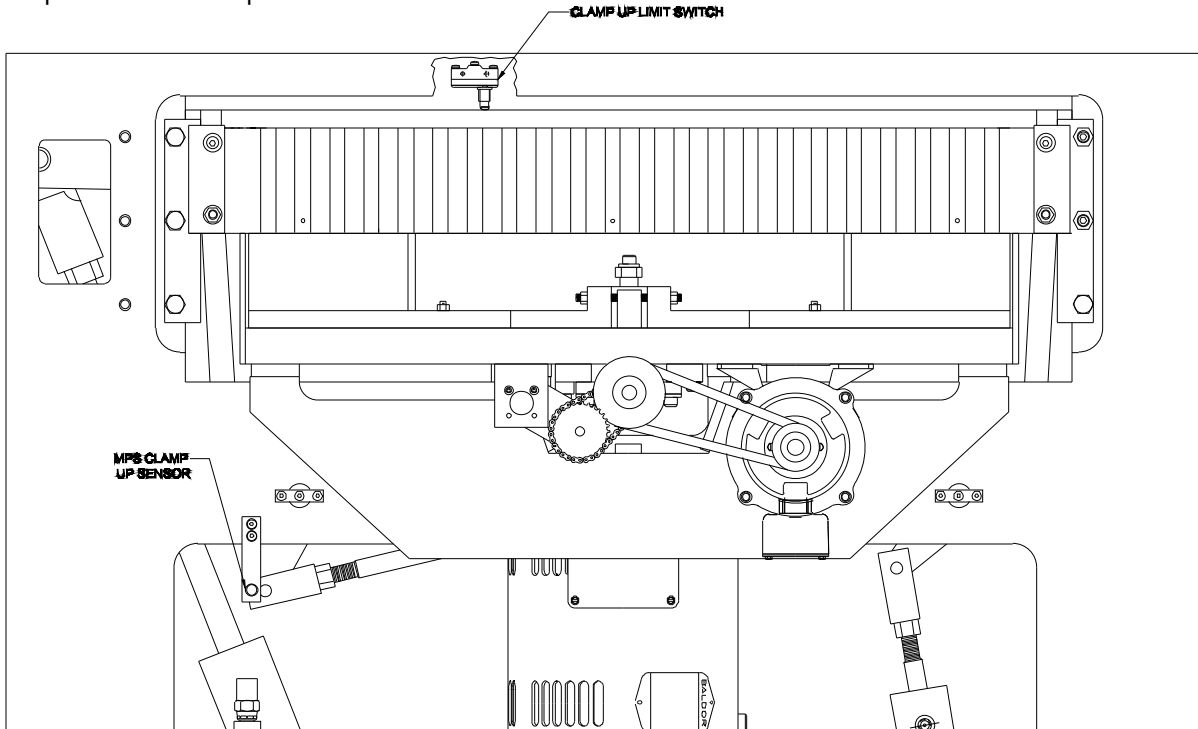

Fig 11
3. Loosen the two (2) socket head cap screws with a 5/32" Allen wrench and a 3/8" open end wrench on the hex nuts. Fig. 11.
2. The sensor is located on the right side rear of the frame, under the table. It is attached to a black bracket that is screwed to the frame with button head screws. Fig. 11.